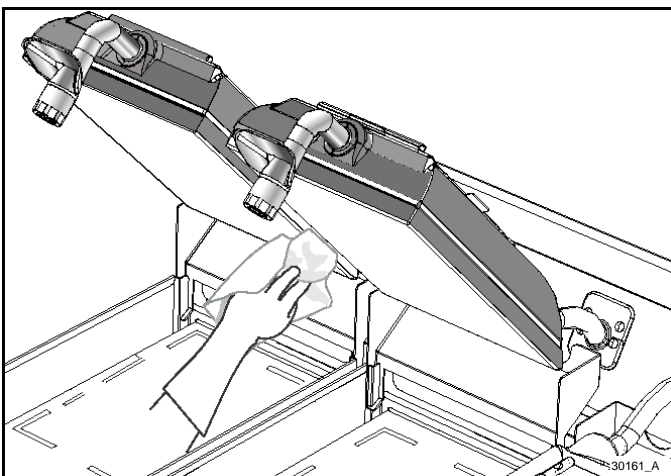

Figure-129
37. Rinse the upper platens and lower plates with a clean, sanitizer-soaked grill cloth. Also rinse the surrounding areas such as the hood, bull nose, and backsplash. See Figure-129.